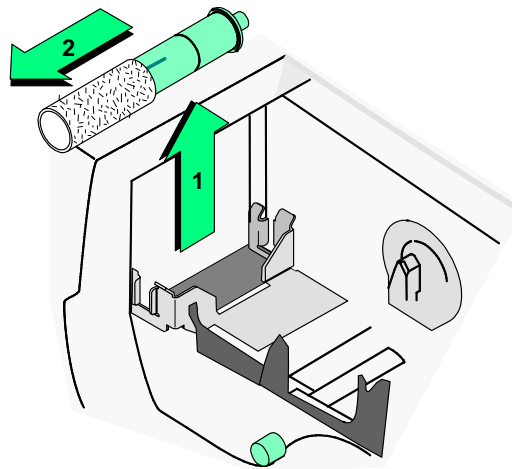

Figure 4-4: Lift the roller out of the printer
- 4 Lift the continuous cleaning roller unit out of the printer (step 1 in Figure 4-4).
- 5 Slide the used sleeve off the cleaning roller spindle (step 2 in Figure 4-4). Discard the used sleeve.